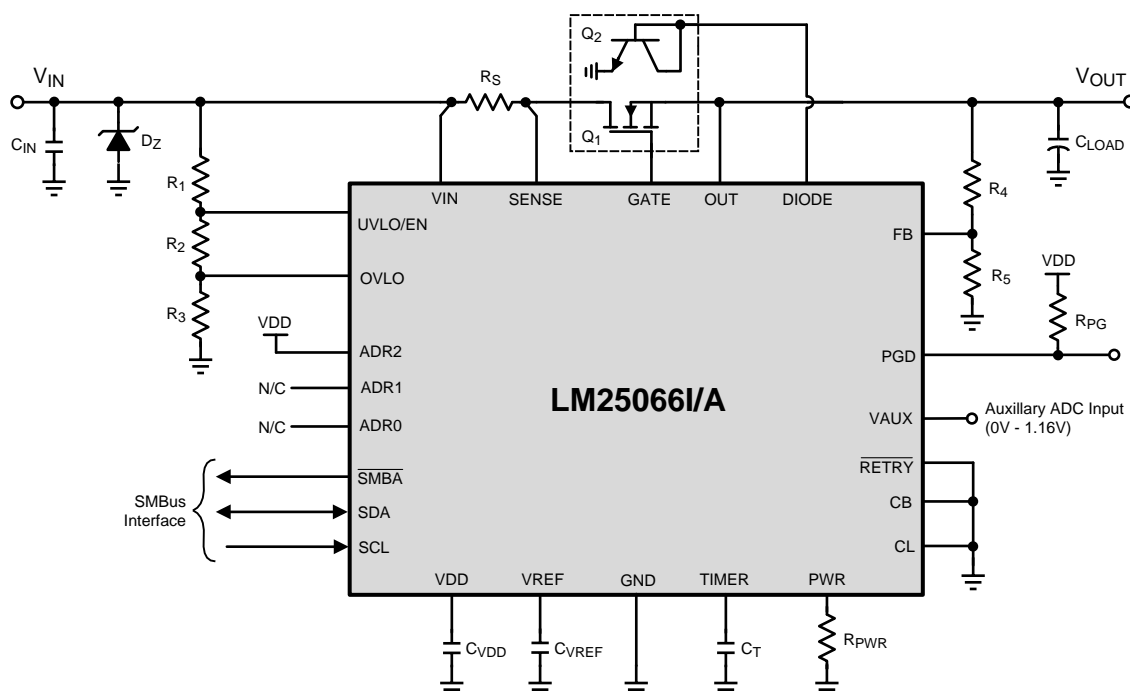
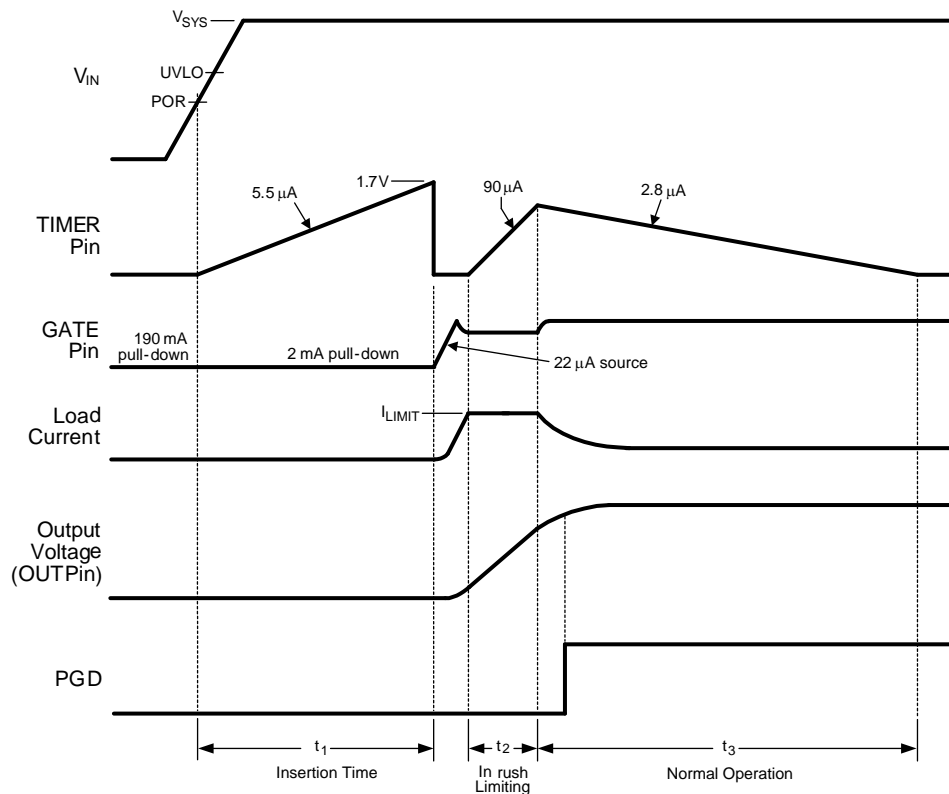

Figure 31. Typical Application Circuit
Figure 32. Power Up Sequence (Current Limit Only)
The  $V_{IN}$  operating range of the LM25066I/A is +2.9V to +17V, with transient capability to +24V. Referring to Figure 31 and Figure 32, as the voltage at  $V_{IN}$  initially increases, the external N-channel MOSFET ( $Q_1$ ) is held off by an internal 190 mA pulldown current at the GATE pin. The strong pulldown current at the GATE pin prevents an inadvertent turn-on as the MOSFET’s gate-to-drain (Miller) capacitance is charged. Additionally, the TIMER pin is initially held at ground. When the  $V_{IN}$  voltage reaches the POR threshold, the insertion time begins. During the insertion time, the capacitor at the TIMER pin ( $C_T$ ) is charged by a 5.5  $\mu$ A current source and  $Q_1$  is held off by a 2 mA pulldown current at the GATE pin regardless of the input voltage. The insertion time delay allows ringing and transients at  $V_{IN}$  to settle before  $Q_1$  is enabled. The insertion time ends when the TIMER pin
As the voltage at the OUT pin increases, the LM25066I/A monitors the drain current and power dissipation of MOSFET  $Q_1$ . Inrush current limiting and/or power limiting circuits actively control the current delivered to the load. During the inrush limiting interval ( $t_2$  in Figure 32), an internal 90  $\mu$ A fault timer current source charges  $C_T$ . If  $Q_1$ 's power dissipation and the input current reduce below their respective limiting thresholds before the TIMER pin reaches 1.7V, the 90  $\mu$ A current source is switched off and  $C_T$  is discharged by the internal 2.8  $\mu$ A current sink ( $t_3$  in Figure 32). The PGD pin switches high when FB exceeds its rising threshold of 1.167V.
A charge pump provides the voltage at the GATE pin to enhance the N-Channel MOSFET's gate. During normal operating conditions ( $t_3$  in Figure 32) the gate of  $Q_1$  is held charged by an internal 22  $\mu\text{A}$  current source. The voltage at the GATE pin (with respect to ground) is limited by an internal 18.8 V zener diode. See the graph "GATE Pin Voltage" shown previously. Since the gate-to-source voltage applied to  $Q_1$  could be as high as 18.8 V during various conditions, a zener diode with the appropriate voltage rating must be added between the GATE and OUT pins if the maximum  $V_{GS}$  rating of the selected MOSFET is less than 18.8 V. The external zener diode must have a forward current rating of at least 190 mA. When the system voltage is initially applied, the GATE pin is held low by a 190 mA pulldown current. This helps prevent an inadvertent turn-on of the MOSFET through its drain-gate capacitance as the applied system voltage increases.
During the insertion time ( $t_1$  in Figure 32) the GATE pin is held low by a 2 mA pulldown current. This maintains  $Q_1$  in the off-state until the end of  $t_1$ , regardless of the voltage at VIN or UVLO. Following the insertion time ( $t_2$  in Figure 32), the gate voltage of  $Q_1$  is controlled to keep the current or power dissipation level from exceeding the programmed levels. While in the current or power limiting mode, the TIMER pin capacitor is charging. If the current and power limiting cease before the TIMER pin reaches 1.7V, the TIMER pin capacitor then discharges, and the circuit begins normal operation. If the inrush limiting condition persists such that the TIMER pin reached 1.7V during  $t_2$ , the GATE pin is then pulled low by the 190 mA pulldown current. The GATE pin is then held low until either a power up sequence is initiated ( $\overline{\text{RETRY}}$  pin to VDD), or an automatic retry is attempted ( $\overline{\text{RETRY}}$  pin to GROUND). See Fault Timer and Restart. If the system input voltage falls below the UVLO threshold or rises above the OVLO threshold, the GATE pin is pulled low by the 2 mA pulldown current to switch off  $Q_1$ .
When the current limit or power limit threshold is reached during turn-on, or as a result of a fault condition, the gate-to-source voltage of  $Q_1$  is controlled to regulate the load current and power dissipation in  $Q_1$ . When either limiting function is active, a  $90\ \mu\text{A}$  fault timer current source charges the external capacitor ( $C_T$ ) at the TIMER pin as shown in Figure 32 (Fault Timeout Period). If the fault condition subsides during the Fault Timeout Period before the TIMER pin reaches 1.7V, the LM25066I/A returns to the normal operating mode and  $C_T$  is discharged by the 1.9 mA current sink. If the TIMER pin reaches 1.7V during the Fault Timeout Period,  $Q_1$  is switched off by a 2 mA pulldown current at the GATE pin. The subsequent restart procedure then depends on the selected retry configuration.
**A) Insertion Delay** - Upon applying the system voltage ( $V_{SYS}$ ) to the circuit, the external MOSFET ( $Q_1$ ) is held off during the insertion time ( $t_1$  in Figure 32) to allow ringing and transients at  $V_{SYS}$  to settle. Since each backplane's response to a circuit card plug-in is unique, the worst case settling time must be determined for each application. The insertion time starts when VIN reaches the POR threshold, at which time the internal 5.5  $\mu A$  current source charges  $C_T$  from 0V to 1.7V. The required capacitor value is calculated from: